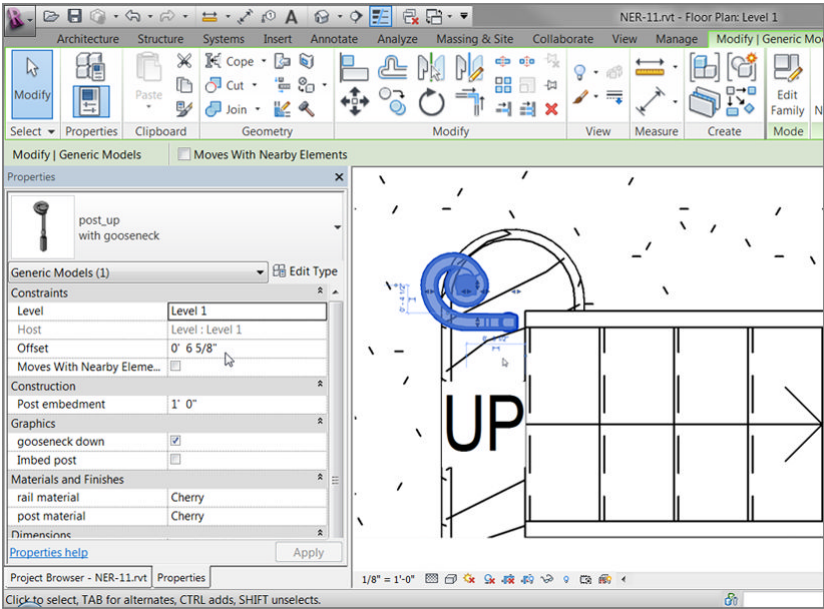

FIGURE 10.70: Placing the post with the gooseneck
1. In the Project Browser, go to the Level 1 floor plan, and zoom in on the landing area, as shown in Figure 10.70.